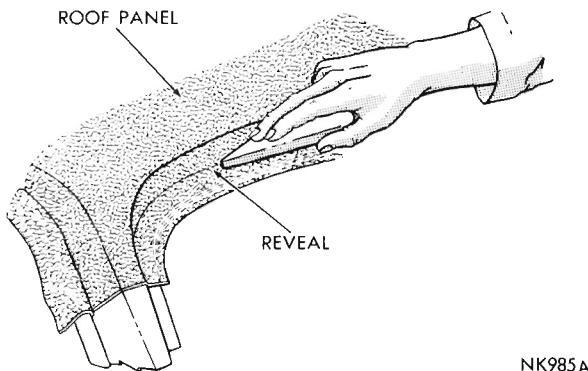
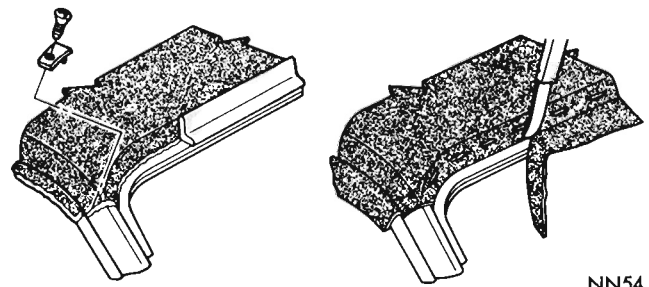
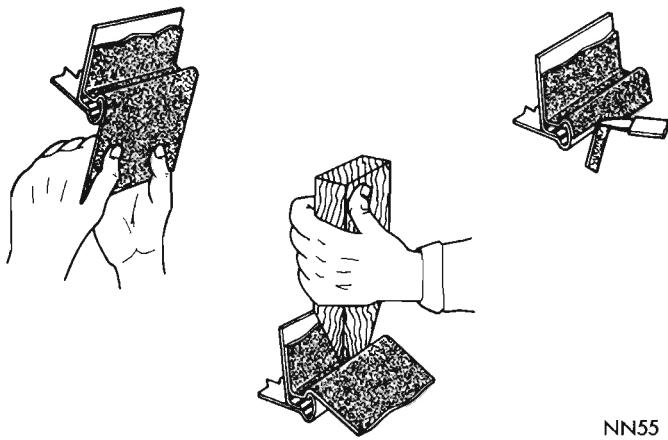
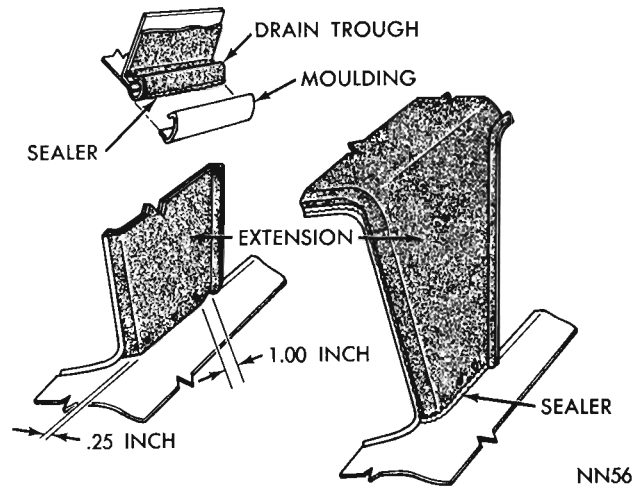

FIG. 3 Positioning Cover In Window Reveals
FIG. 4 Trimming And Sealing Cover At Windows
FIG. 5 Positioning Cover At Sides
FIG. 6 Sealing Cover At Sides
(7) Repeat steps 5 and 6 for the opposite side.
(8) Using a new paint roller, pressurize cover to the roof working from center area toward drain troughs.
(9) Press cover into windshield and rear window reveals using a dull pointed fiber tool (Fig. 3).
(10) Position cover to roof panel extension making certain all wrinkles are removed.
(11) Trim fabric at base of windshield reveal, halfway between upper and lower edges of pillar moulding (Fig 4).
(12) Trim fabric at base of rear window reveal.
(13) Using a dull pointed tool, press fabric into drain trough to achieve maximum contact of roof cover material to drain trough (Fig 5).
(14) Grasp outboard edge of cover and while pulling material outward and down, use upper edge of drain trough flange as a breakover for draping material onto outboard drain trough flange face (Fig. 5). **Care must be taken to avoid pulling loose the cover material** applied to base of drain trough.
(15) Press material against drain trough flange face for full length of outboard sides of roof cover.
(16) Trim excess material hanging below drain trough flange about 1/8 inch above lower edge of flange (Fig. 5).
(17) Locate and punch holes in cover at roof extension belt line.
(18) Trim cover on a line 1/4 inch below belt line moulding holes and curving upward to meet drain trough.
(19) Apply a bead of sealer to trimmed edge of cover at roof panel and smooth out to form a seal (Fig. 6).